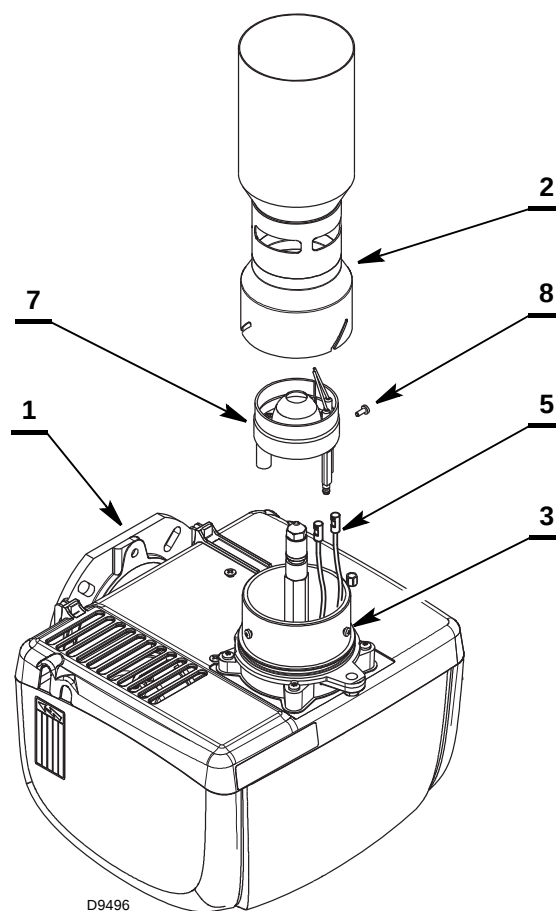

Fig. 29
- hook the burner onto flange 1) (Fig. 29), undo the screws 3) and pull off the blast tube 2);